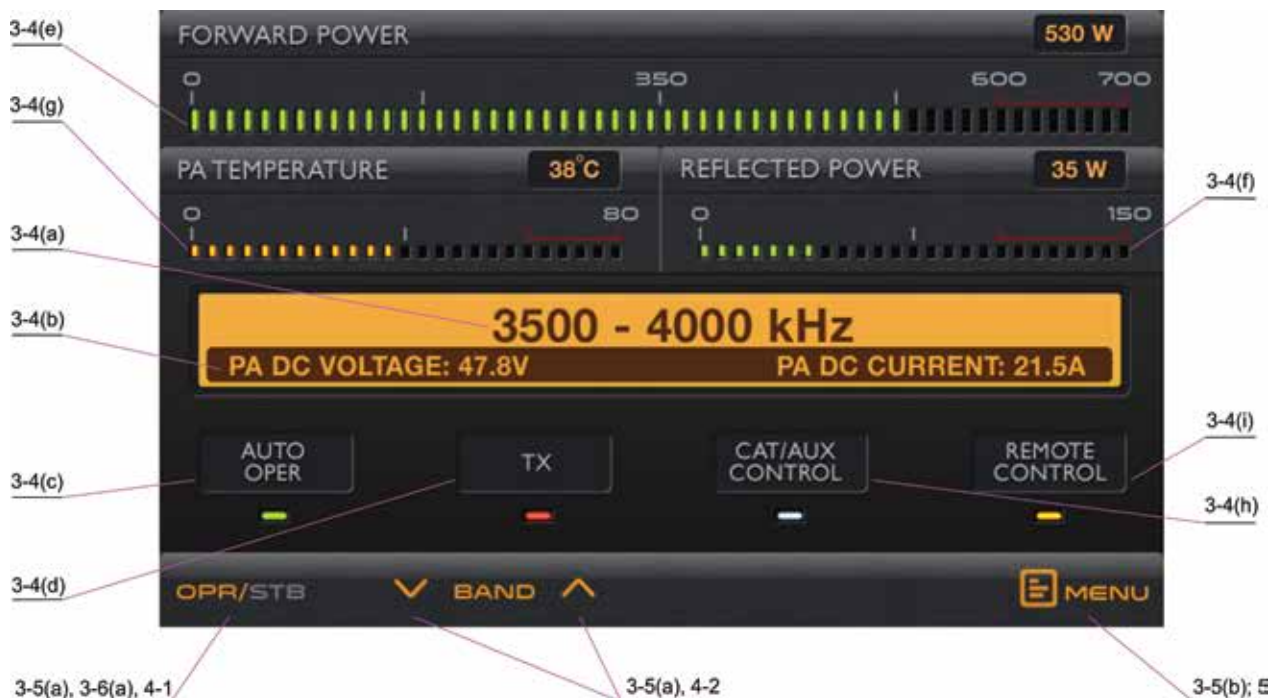

Fig. 3-2 Basic screen
- In some cases, when the transceiver is powered on after the amplifier, you may need to press and hold up for one second the button BAND of the amplifier, up or down (Fig. 3-2), to make the transceiver inform the amplifier about its frequency; in other occasions, the transceiver transmits its frequency only on changes and you may need to move slightly the main frequency dial knob or change it in another way in order to announce it to the amplifier after an initial power turn on;
In order to activate the main power supply at starting amplifier operation, press and hold on the ON/OFF button on the front panel for one or two seconds - about three seconds later the display will flash and show the **basic screen** showing the amplifier status and operation - Fig. 3-2.
- a) The OPR/STB and the BAND (up and down) buttons are used for manual (local) control of the amplifier in the basic screen (Fig. 3-2):
- b) The right-most button – MENU (Fig. 3-2) – serves for access to the list of menus.
- the EXIT button can be used at any time to leave the currently used menu or the menu list for possibly easiest and fastest “return” to the basic screen (Fig. 3-2).
After a successful check-up with non-powered amplifier, item (a), turn on its mains power supply and run it to the basic screen, as described in Sections 3-1 to 3-4 (Fig. 3-2).
For this check it is necessary that the amplifier is in the Stand-by mode. If the AUTO OPER option has been activated at any previous switching on of the amplifier, it will automatically start in the AUTO OPER mode (Fig. 3-2 and S. 5-4) immediately after turning power on. In such a case, press once the OPR/STB button to return the amplifier manually to the Stand-by mode.
Now press the OPR/STB button to put manually the amplifier in Operate mode (S. 3-2 and Fig. 3-2). The OPER or the AUTO OPER indicator must flash and the indicator RX/TX must remain in condition RX. Besides this, PA DC VOLTAGE must become 48-52V while PA DC CURRENT must remain zero.
In the basic screen (Fig. 3-2) check whether the currently selected frequency band of the amplifier and the transceiver frequency match the antenna band. If needed (when the CAT/AUX interface between the amplifier and the transceiver is not connected), use BAND buttons (up and down) of the amplifier to switch to the desired frequency band manually.